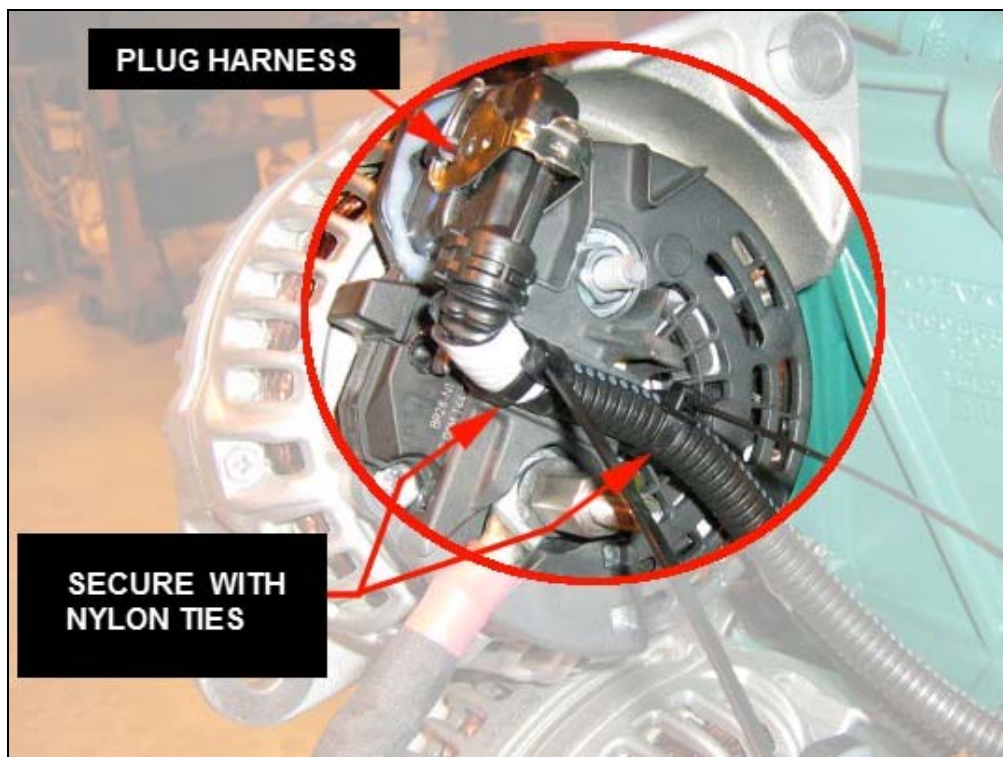

FIGURE 27
16. Plug alternator harness onto alternator connector and secure using nylon cable ties (FIGURE 27).